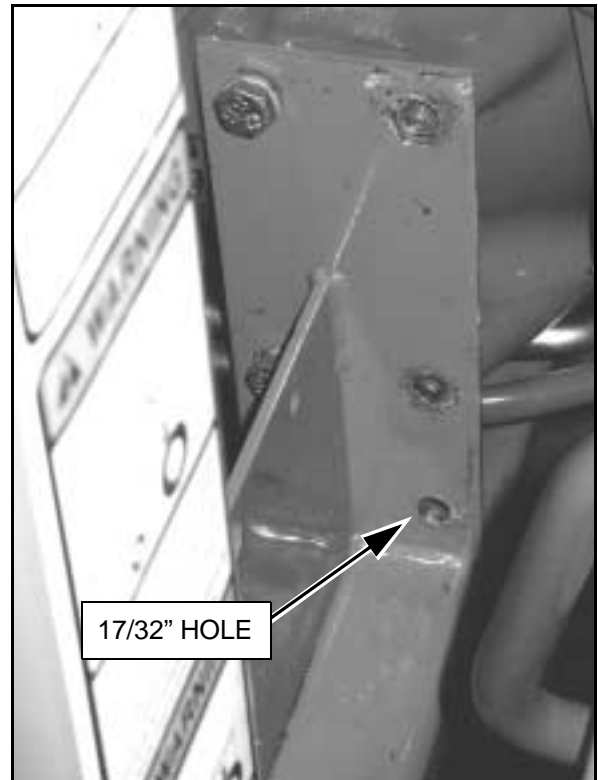

Figure 5 Additional Hole Drilled for 7106 Loader (Left side shown)
3. An additional hole will need to be drilled into each side of the New Holland loader rear mount (refer to Figure 5):